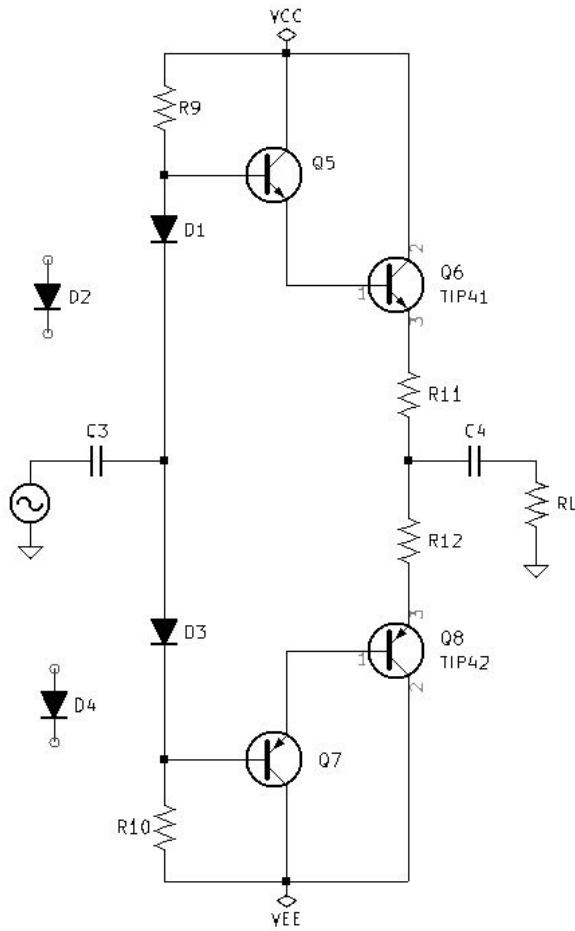

Figure 5.2: Push Pull Amplifier Cross-Over Distortion Test Circuit.
- (b) Build your calculated Push-Pull Amplifier with D2 and D4 removed from the circuit. Also, replace RL with a $10K\Omega$ resistor. See Figure 5.2 *Push Pull Amplifier Cross-Over Distortion Test Circuit*. on page 54.